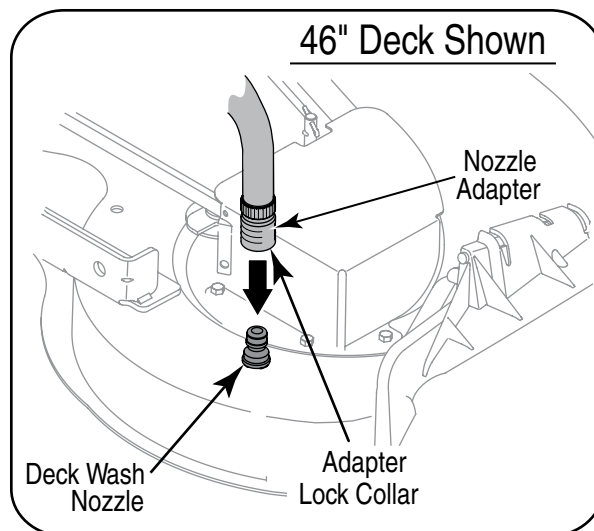

Figure 6-3
4. Pull back the lock collar of the nozzle adapter and push the adapter onto the deck wash nozzle at the left end of the mower deck. Release the lock collar to lock the adapter on the nozzle. See Figure 6-3.